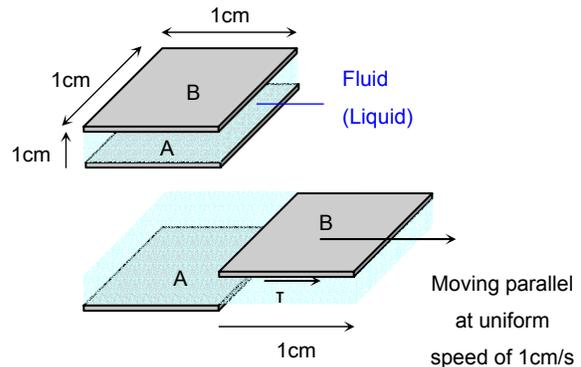

Figure 4. Geometric Definition of Viscosity
As shown in Figure 4, where stress  $\tau$  exerted on board B (inside) of unit area  $1 \text{ cm}^2$  is  $1[\text{dyne}/\text{cm}^2]$  when the distance between board A and board B is  $1\text{cm}$  and it is filled with liquid, and only board B is being moved parallel at speed of  $1\text{cm}/\text{second}$  (shearing rate  $D = 1[\text{s}^{-1}]$ ), according to the equation (3)  $\eta = \tau / D$ , viscosity  $\eta$  of this liquid is given as  $1 \text{ poise } [P]$ , or according to the equation (7), as  $0.1 \text{ pascal second } [Pa \cdot s]$ .